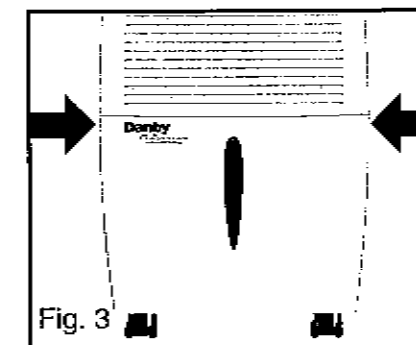

Fig. 3
1. Remove the water tank from the cabinet. See Fig.3